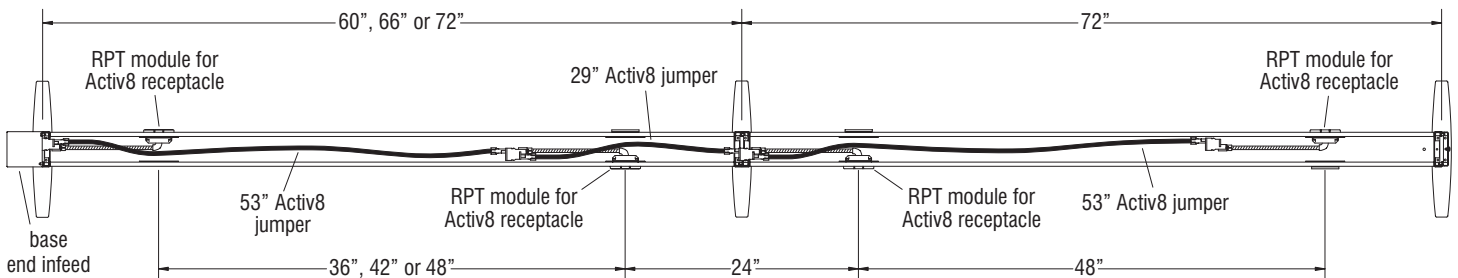

Figure 2 - 60"-72" Dual Chase Unit with Alternating Receptacle Locations
- If using Dual Chases (60", 66" or 72") with a single receptacle on alternating sides the jumpers between receptacles would be 53" and across the seams between units would be 29" jumpers (Figure 2).